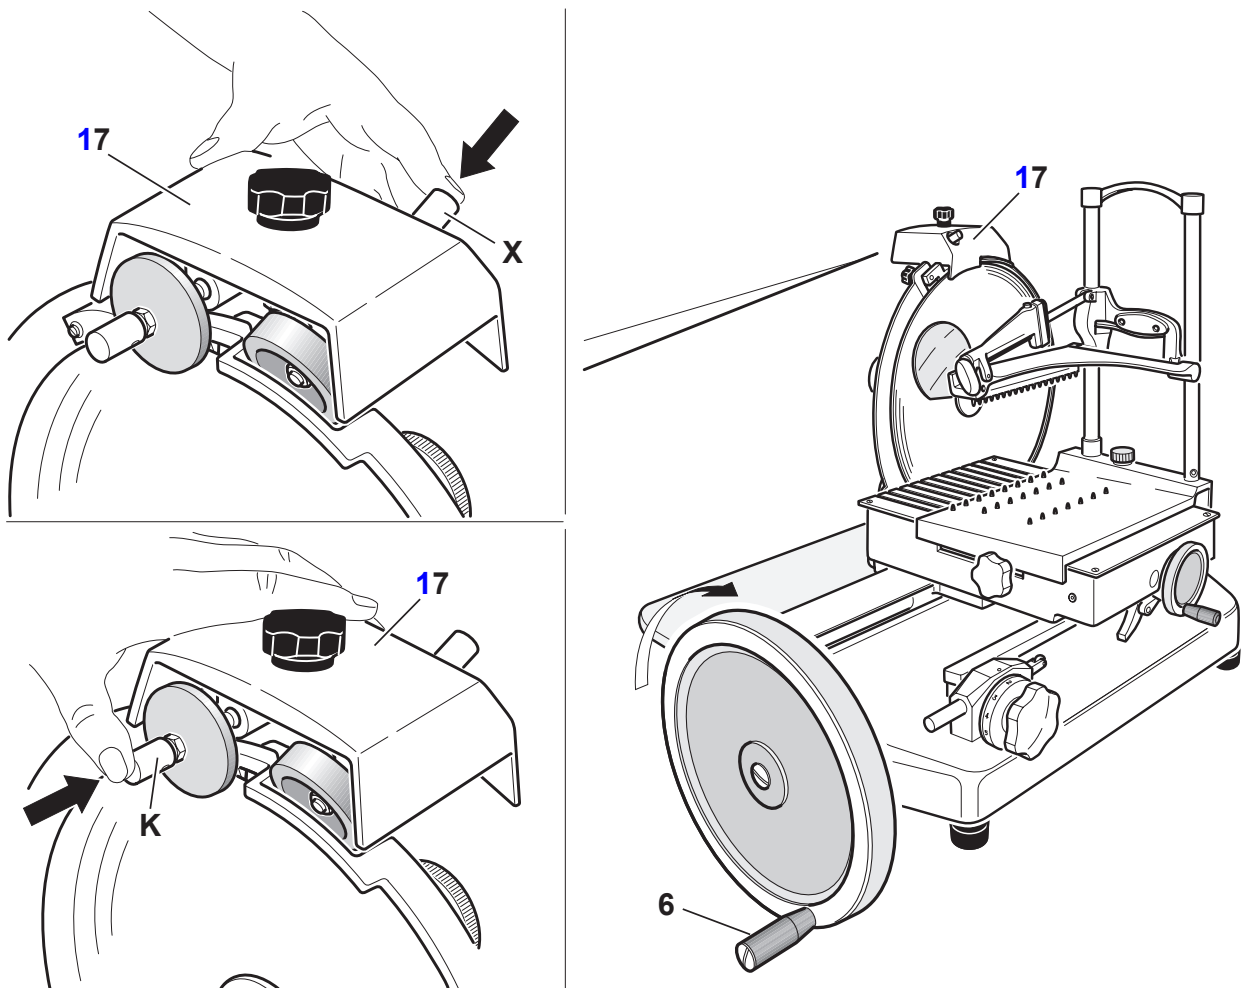

Figure 21-1
11. Turn the flywheel handle (6) clockwise and press the “X” button to perform about 20 to 30 knife revolutions (Figure 21-1).
12. Stop turning the flywheel handle (6) to stop the knife rotation. Use a pencil to check that a slight burr has formed on the knife edge.
13. Turn the flywheel handle (6) clockwise and press the “K” button.